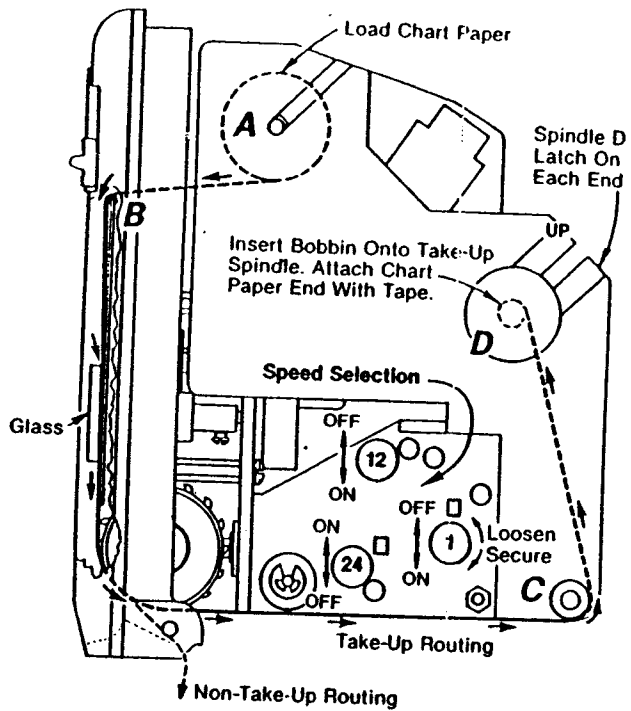
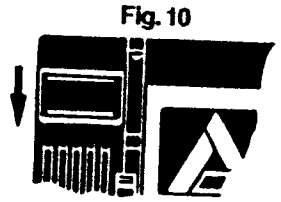
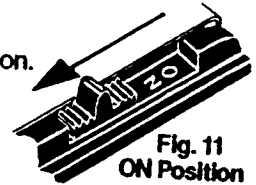

Fig. 9
Fig. 10
Fig. 11
3. To insert or remove chart paper, place recorder in horizontal position and press the release button in the direction shown in fig. 10. Raise recorder mechanism to a vertical position until it locks. Remove feed shaft (A) (see fig. 9) and place chart roll on spindle. Remove tape on roll and retain tape for securing chart on take-up spindle (D). Unroll about 12" to 15" and route paper over top edge of scale plate (B) underneath glass, over the sprocket wheels, to the rear and over the idle roller (C) up to the cardboard bobbin mounted on take-up spindle (D). Secure edge of chart to bobbin with tape. Make sure the sprocket holes in the paper engage the sprocket wheels. Be
sure that feed control is tight and in the right position. The word "ON" must be visible. Press in the idle roller extension © to allow the recording mechanism to move back down into case and lock into position. Replace cover by positioning the "U" bend onto the plastic projections and snap front down. Make sure chart paper is not binding with the cover in place. For "non-take-up" recording, route chart through bottom slot as shown in fig. 9.
1. To select chart speed, energize recorder with proper line voltage and frequency. Raise recorder to vertical position (see loading and unloading chart paper on take-up models). Move chart drive switch to "ON" position exposing the word "ON". Make sure switch clicks into detent (see fig. 11). Set all three speeds to "OFF" position and tighten (see fig. 9). Move desired speed knob (1, 12 or 24) to "ON" position. Tighten while keeping pressure on gear mechanism.
2. Press in the idle roller extension © to allow the recording mechanism to move back down into the case and lock into position. Replace cover by positioning the "U" bend onto the projections above the chart well opening. Make sure chart paper is not binding with the cover in place. For "non-take-up" recording route chart through bottom slot as shown in figure 9.
7. Push chart drive switch to "ON" position (exposing the word "ON"). Make sure switch clicks into detent position which locks it into place. See fig. 11.